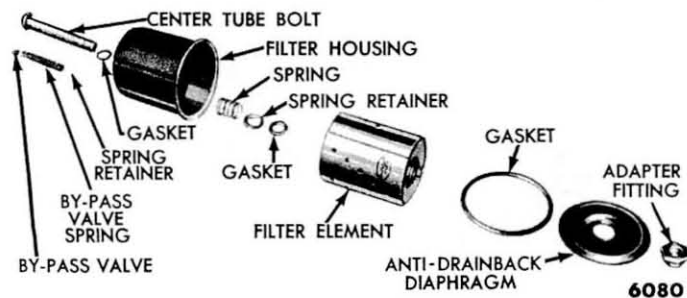

Fig. 42—Oil Filter—Disassembled
(2) **DISASSEMBLY.** Remove the filter element, neoprene gasket, spring, and seat, then remove the center bolt and fibre gasket from the cover. Discard the filter element and all gaskets. The oil filter is shown disassembled in fig. 42.